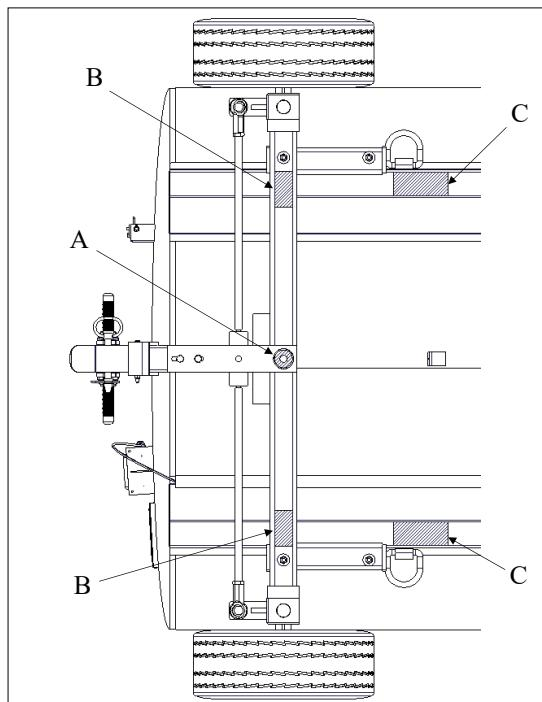

Figure 4-2 Lift Points
- b. Raise equipment with suitable maintenance jack (See Figure 4-2, arrow A for jack placement) high enough to remove wheel assembly.
- c. Place approved jack stands under front axle (See Figure 4-2, arrow B for stand placement).
To remove the entire Front Undercarriage assembly, the equipment must have the front end raised. See Figure 4-2 for lift points.
- a. Raise equipment with suitable maintenance jack (See Figure 4-2 arrow A for jack placement) to allow two inches of space between the wheels and ground.
- b. Place cribbing under tank skids (See Figure 4-2, reference arrows C) to safely support the equipment.
To remove wheel assembly, the equipment must have the back end raised and placed on approved jack stands. Points A and B are similar on both the rear and front axles. (See Figure 4-2)
- a. Raise equipment with suitable maintenance jack high enough to remove wheel assembly. (See Figure 4-2, arrow A for jack placement).
- b. Place approved jack stands under rear axle (See Figure 4-2, arrow B for stand placement).